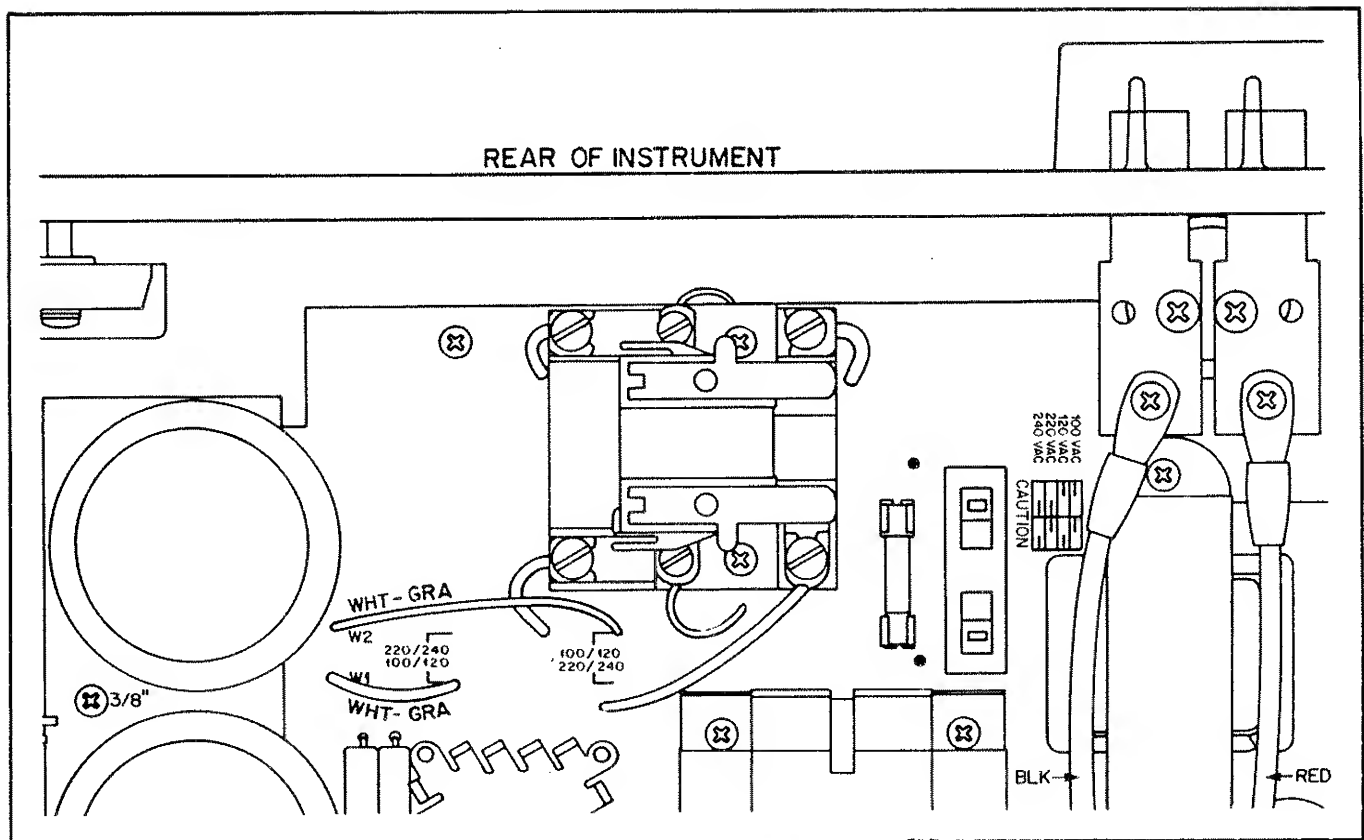

Figure 2-3. Line Voltage Conversion Components
2-26 Line voltage conversion is accomplished by adjusting three components; the two-section line select switch S2, and jumpers W1 and W2. Figure 2-3 shows the locations of these components at the center-rear section of the main board. To convert the instrument from one line voltage option to another, proceed as follows:
c. Use a small-blade screwdriver to set the two switch sections of S2 to match the pattern silkscreened on main board for nominal line voltage to be used. For example, to set switches for 120V operation (as illustrated in Figure 2-3), move forward switch section so that its white slot is toward front of instrument and move rearward switch section so its white slot is toward rear of instrument.
d. One end of W1 is soldered to main board; the other end has a female quick-connect terminal that fits onto one of two terminals soldered to main board. For 120V operation, W1 must be connected to terminal closer to front of instrument (as shown in Figure 2-3). For 220V or 240V operation, W1 must be connected to terminal closer to rear of instrument. Be certain that jumper is firmly mated with terminal on main board. Do not grip jumper insulation with pliers; either grip jumper wire by hand or grip jumper terminal with pliers.
e. Jumper W2 is similar to W1. For 120V operation, W2 must be connected to terminal closer to rear of instrument (as shown in Figure 2-3). For 220V or 240V operation, W2 must be connected to terminal closer to front of instrument. Be certain that jumper is firmly mated with terminal on main board. Do not grip jumper insulation with pliers; either grip jumper wire by hand or grip jumper terminal with pliers.